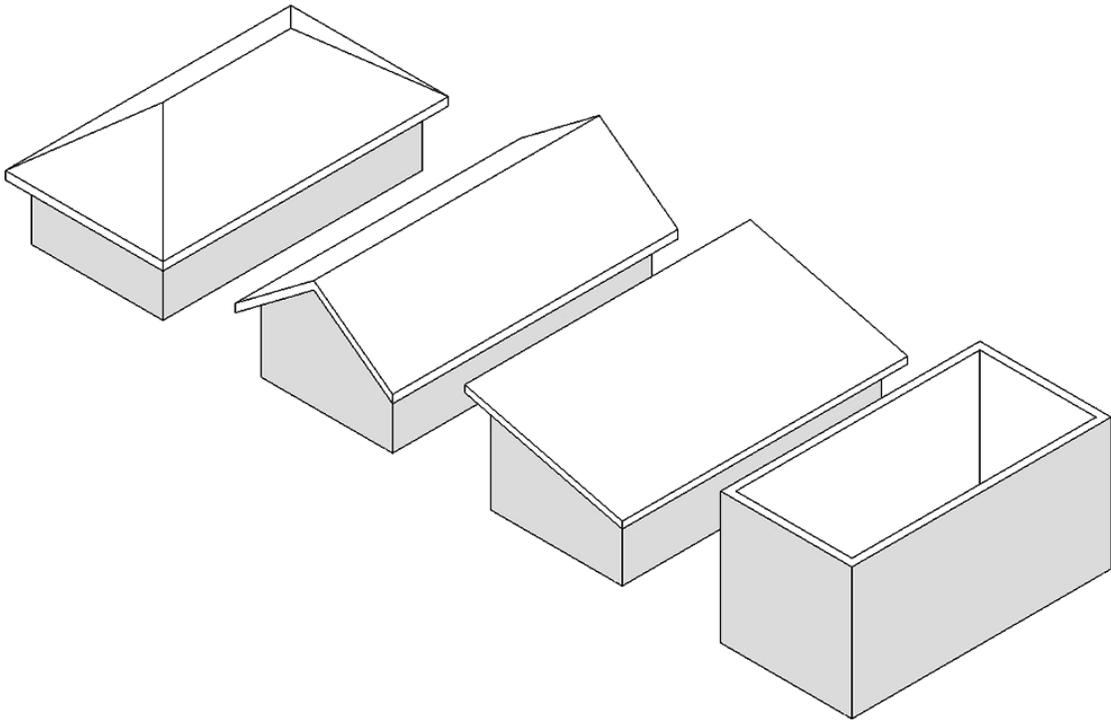

FIGURE 7-1.11 Default 3D view – shed roof
38. Switch to the **Default 3D** view (Figure 7-1.11).